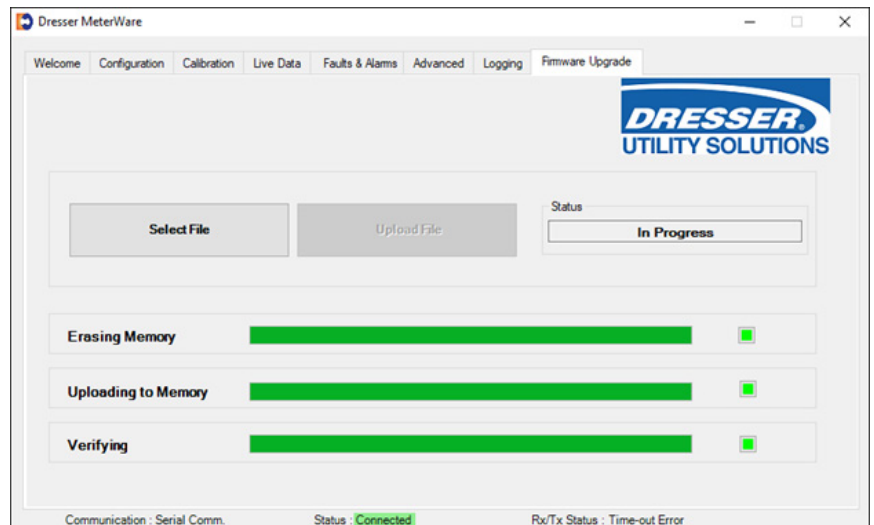

Figure 12.9 Example - Firmware upgrade is complete.
3. When the firmware upgrade is complete, the three squares are green and the screen displays the message **Firmware updated successfully**. Refer to Figure 12.9 Example.